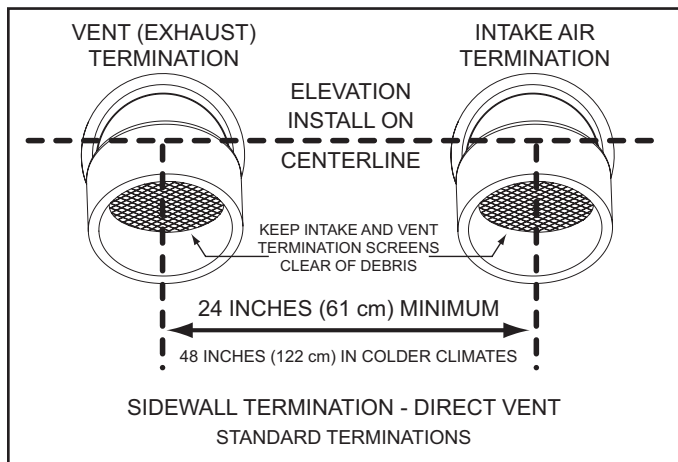

Figure 21
4. If installing both an intake air and vent termination in a Direct Vent configuration through a sidewall there must be a minimum of 24 inches (61 cm) separation, measured on vertical center line, between the intake air and vent terminations, see Figure 21.
5. If installing both intake air and vent terminations in a Direct Vent configuration through a sidewall the intake air and vent terminations must be installed at the same elevation measured on horizontal center line - see Figure 21.
However, the distance between the closest vent and intake air terminations must be a minimum of 24 inches (61 cm). In colder climates this separation should be increased to at least 48 inches (122 cm). See Figure 21.